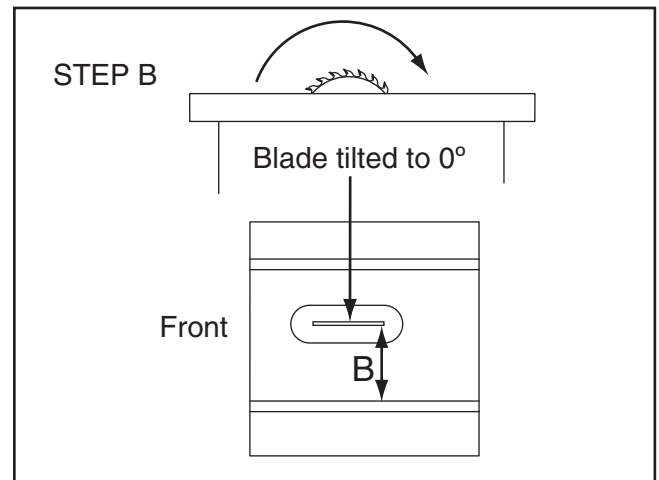

Figure 109. Measuring distance from miter slot to carbide tip on opposite side of table insert.
5. Slide adjustable square down to other end of table insert and compare distance from marked blade tip to end of adjustable square, as shown in **Figure 109**.